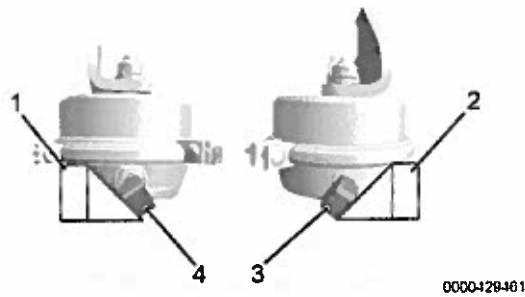

Figure 1. Brake Chamber Fitting Orientation.
8. On both front brake chambers, using Fitting Orientation Templates (Figure 1, Items 1 and 2), Turn 90-degree fitting (Figure 1, items 3 and 4) inward 45-degree and turn 45-degree fitting facing down.